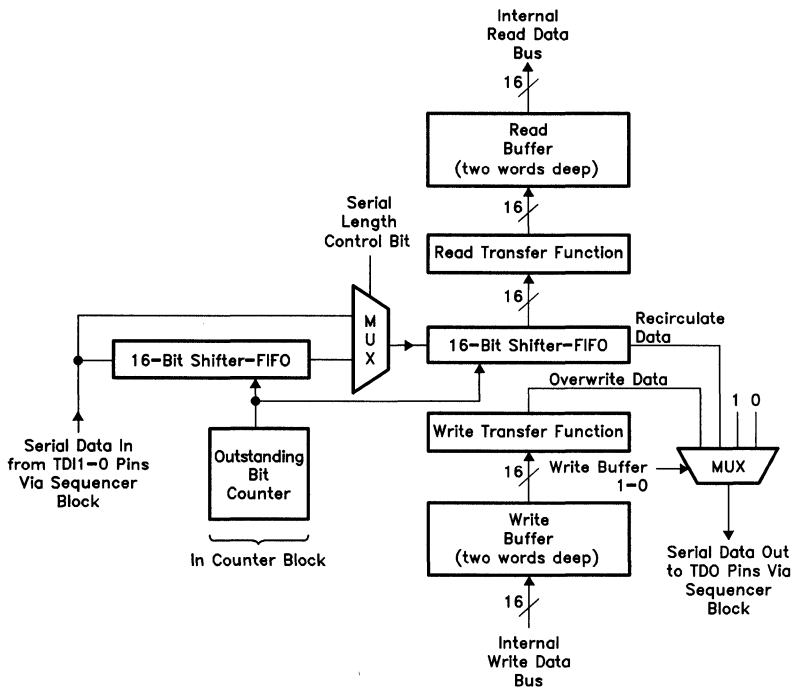

FIGURE 9. SERIAL BLOCK
The target's data and instruction registers are operated on as a number of modules each containing a string of data. These strings are accessed with one or more SCAN commands that operate the data buffer and shifter-FIFO functions of the 'ACT8990. The data buffers and shifter-FIFO are configured by the values of the bits in the control4 register. These functions are shown in Figure 9.
- The sequence acceptor accepts data in source (DIS) and delayed mode source (DMS) signals and uses them to decide what state is being returned. It inputs data from the TDI1-0 input to the serial block (shifter-FIFO) (Figure 9). It indicates to the command block (Figure 10) (command state machines, counter control and status logic, and serial control and status logic) when temporary, scan, and execute states are being returned.
- The serial control and status logic outputs control signals and inputs status signals for the serial block (Figure 9).
The data transfer logic for the SCAN command is in the serial block (see Figure 9). The serial block consists of the data buffers, shifter-FIFO, and transfer functions required by the SCAN commands. It has three sections: